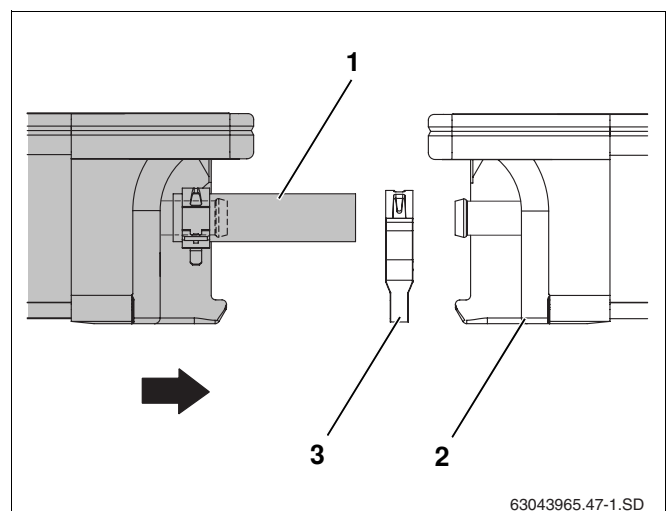

Fig. 46 Pushing second collector towards the first
- Place second collector along with the pre-assembled solar hoses (Fig. 46, **Item 1**) onto the profile rails and let it slide into the anti-slip protectors.
- Push the second hose clip (Fig. 46, **Item 3**) onto the solar hose.
- Push the collector towards the first collector (Fig. 46, **Item 2**) in such a way that the pre-assembled solar hoses are pushed onto the left-hand connections on the first collector.